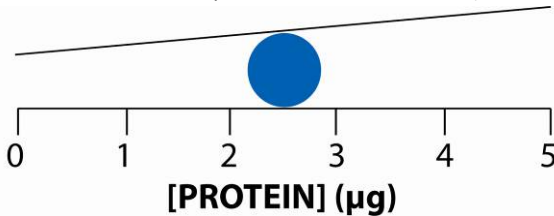

Figure 3: Position the spot between the two lines (Image not too scale).
2. Readings should be made under bright light. Position the protein spots between the two lines of the dotMETRIC™ such that the outer margins of the spots touch the underside of the lines, as shown in Figure 3. Read the protein concentration from the horizontal scale, where the spot first touches the scale (the center of the spot).